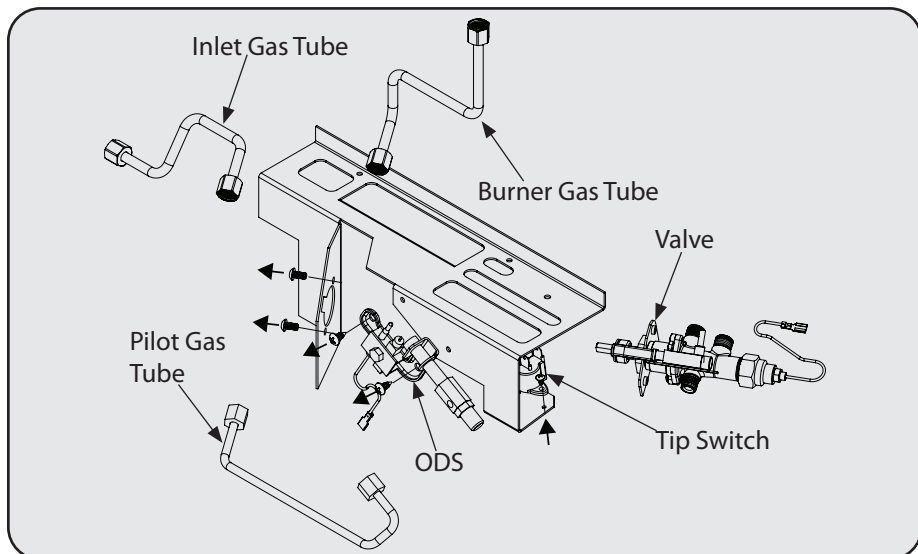

Figure 13
5. Complete the following steps where necessary to replace the various components on the control bracket sub-assembly (Refer to Figure 13):